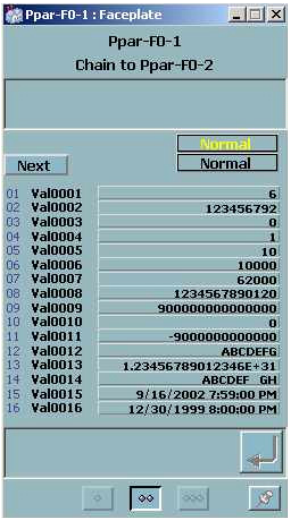

Figure 193. PAR Module
**Parameter (PAR).** The Parameter module faceplate represents a parameter storage function block in an 800xA for DCI controller. The PAR module reports up to 16 values and names associated to each value, and alarm status used for display in the faceplate. Figure 193 shows the layout of the PAR normal sized faceplate and its attributes.